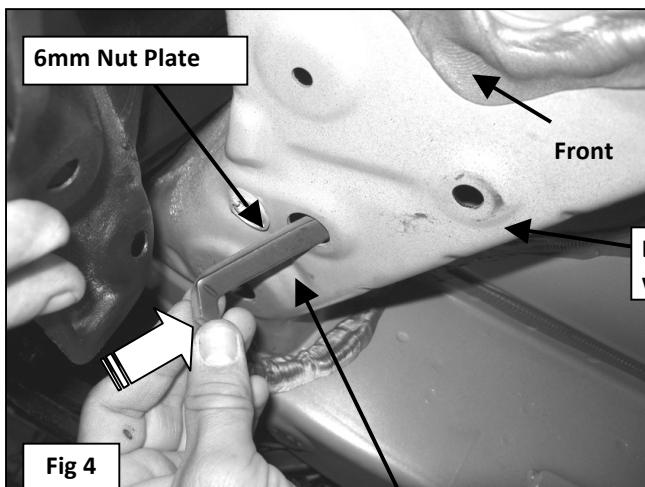

Fig 4
5. Pull back plastic cover to locate the (4) factory holes at the point where the crossmember joins the frame rail, (**Figure 4**). Insert (1) 6mm Nut Plate into the larger inner hole and line up the nut with the larger hole toward the outside, (**Figure 4**).